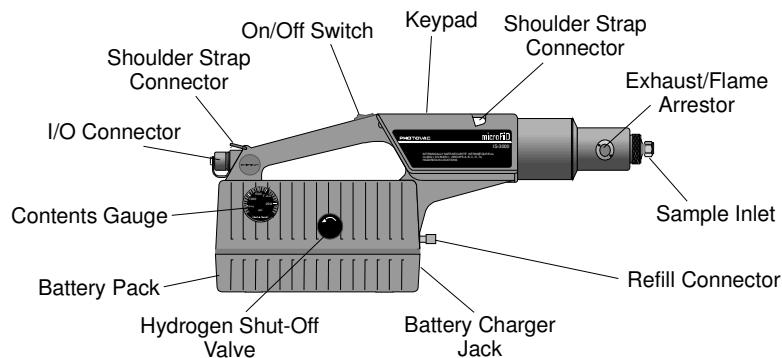

Figure 1 MicroFID Layout
1. Stop the flow of hydrogen gas by turning the hydrogen shut-off valve fully clockwise. See Figure 1. If the instrument has been turned on, turn it off by pressing the On/Off switch twice.
3. If you selected “Start Flame”, MicroFID will prompt you to start the flow of hydrogen. Turn the shut-off valve counterclockwise to start the flow of hydrogen and press ENTER. See Figure 1 for the location of the shut-off valve.